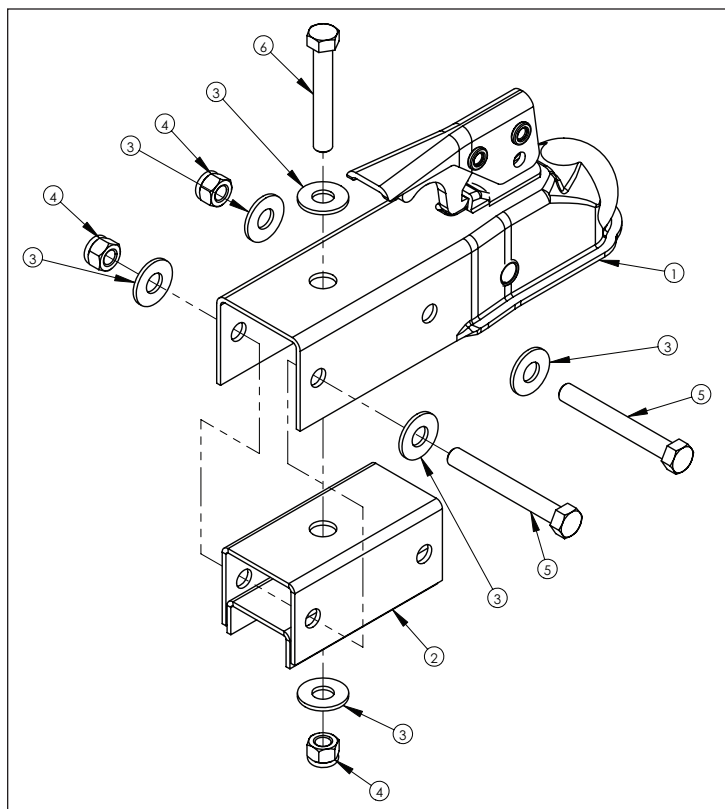

Figure 1: Exploded view
1. Attach the ball adaptor weldment (TK132) to the inside of the ball hitch coupler (TK133) using the (2) provided 3/8-16 x 3" bolts, nyloc nuts and (4) washers. **DO NOT TIGHTEN COMPLETELY.** Watch orientation of parts. **SEE FIGURE 1.**